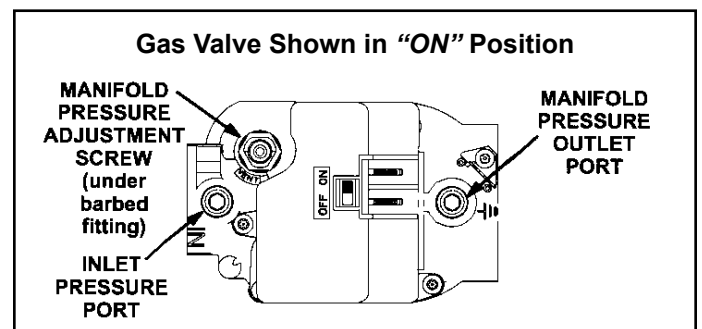

Figure 35.
See Figure 35
- Move switch on gas valve to OFF. Do not force. See Figure 35.
- Move switch on gas valve to ON. Do not force. See Figure 35.